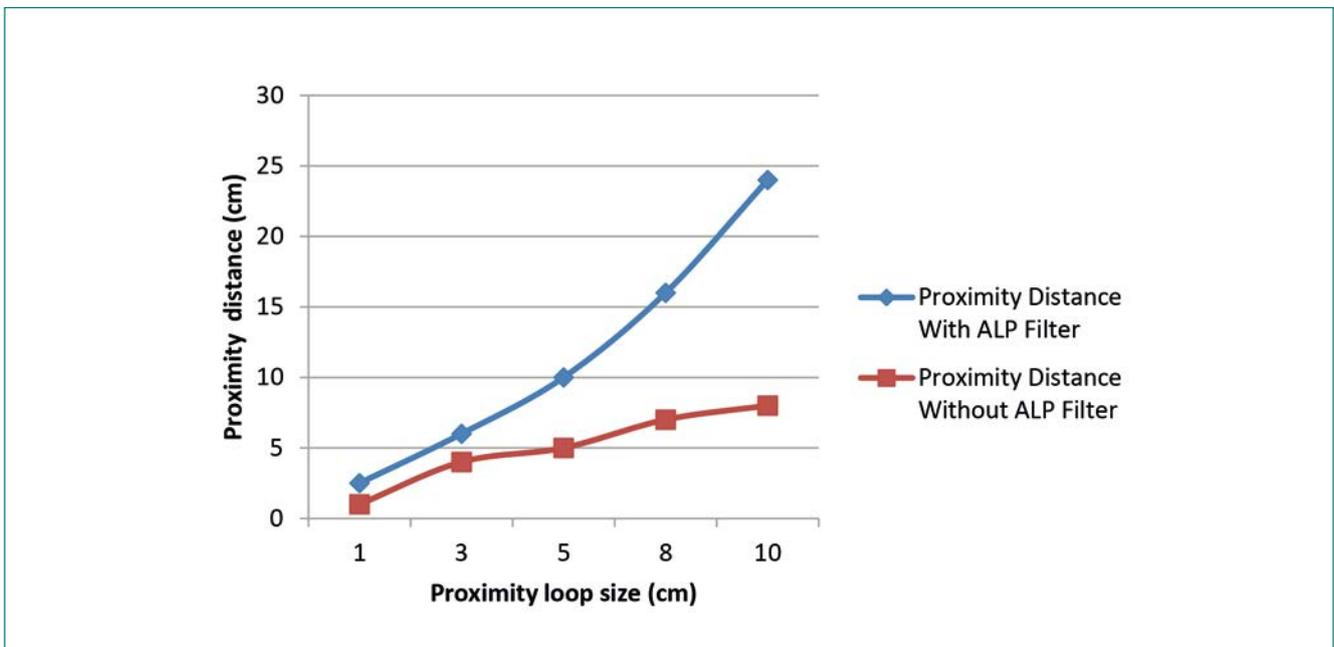

Figure 4-9 Relationship between Proximity Loop Size and Proximity Distance
- Increase the proximity sensor loop size: The proximity distance increases with increase in the proximity sensor area, as Figure 4-9 shows.
- Enable the Advanced Low-Pass (ALP) filter: The ALP filter attenuates the noise in proximity sensor raw counts and increases the proximity distance, as Figure 4-9 shows.
- The proximity distance shown in Figure 4-9 is measured under ideal conditions. The distance might reduce in practical applications depending on the operating environment.
- The proximity distance shown in Figure 4-9 is measured with the ground loop surrounding the proximity sensor. The clearance between the proximity loop and ground loop is kept to 1 mm.